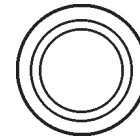

Figure 52. Main Circuit Breaker ON Switch
14. Press the *main* circuit breaker "ON" switch (Figure 52).